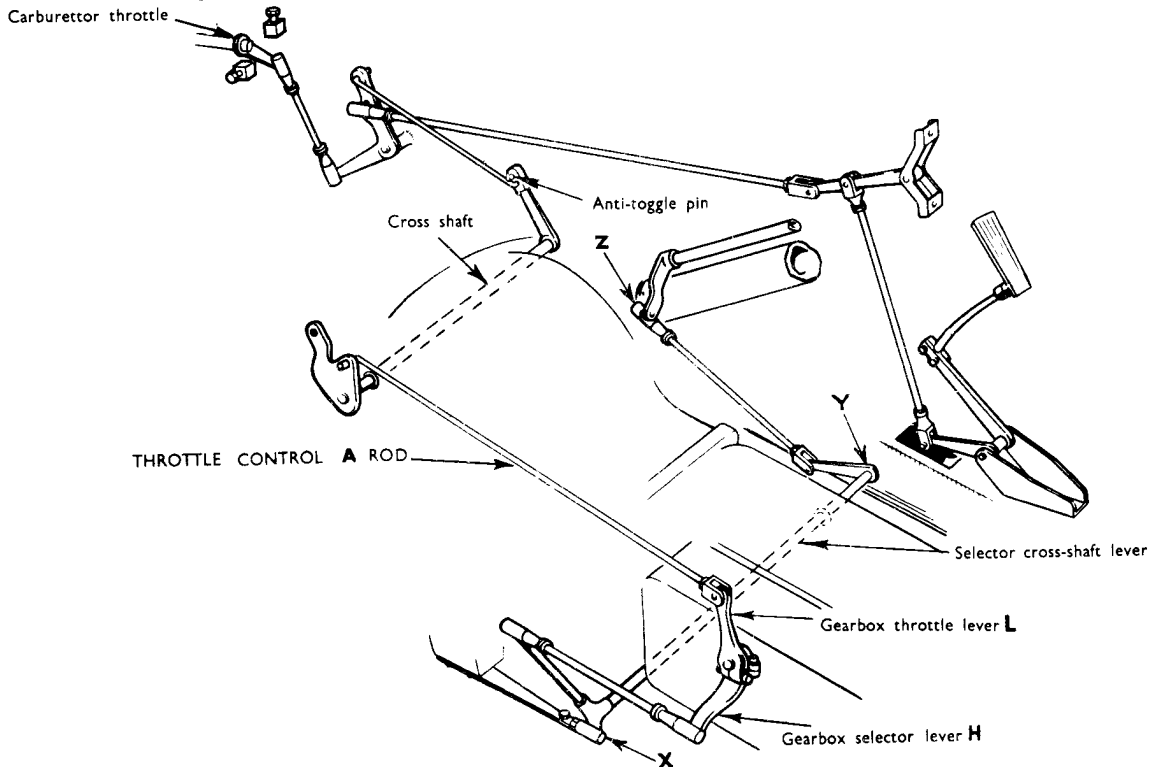

FIG.2 THROTTLE AND MANUAL CONTROL LINKAGE
6. Slacken the pinch bolts and remove levers H and L from the control box shaft. On left hand drive cars the linkage may now be supported clear of the gearbox on the chassis frame. On right hand drive cars disconnect the manual control cross shaft at the ball joints X, Y and Z Fig.2 and remove the cross shaft and selector linkage complete. Allow the throttle 'A' rod to hang clear.